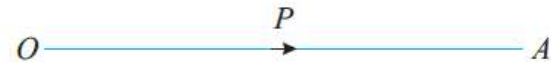

Fig. 1.2. Vector \vec{OA}
- 1. Representation of a vector.** A vector is represented by a directed line as shown in Fig. 1.2. It may be noted that the length OA represents the magnitude of the vector \vec{OA} . The direction of the vector is \vec{OA} is from O (*i.e.*, starting point) to A (*i.e.*, end point). It is also known as vector P .